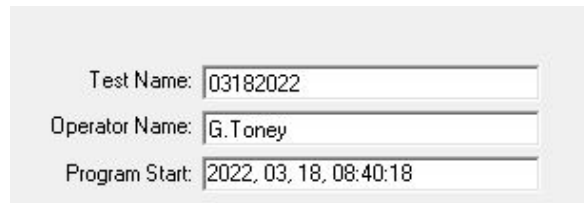

Figure 11. Basic test information.
5. On the main screen, enter the test name and operator name. The program start will auto-populate, as shown in Figure 11.